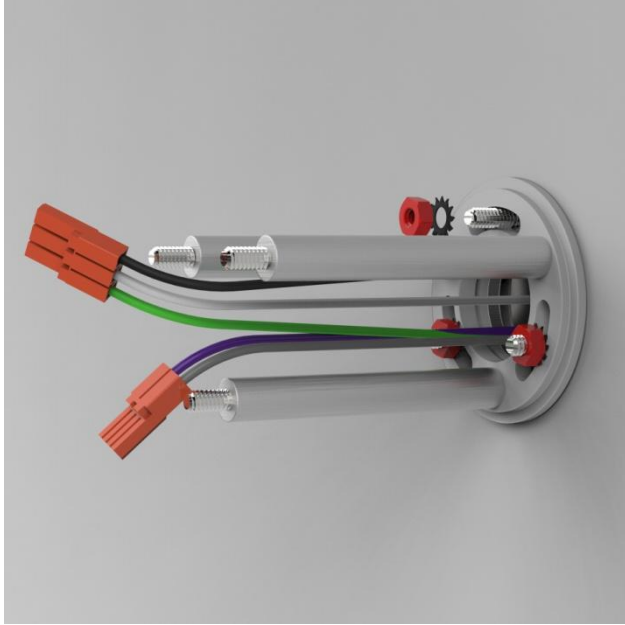

Figure 5
- Slide bowl mount anchor over studs (Figure 5)